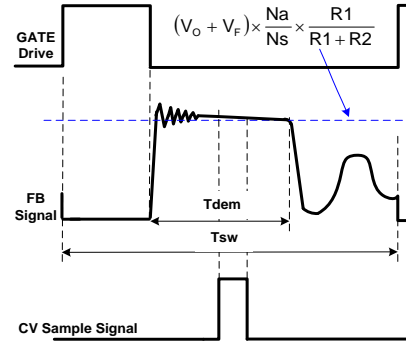

Fig.2
In Primary Side Regulation (PSR) control, the output voltage is sensed on the auxiliary winding when transformer energy is transferred to the secondary side. Fig.2 illustrates the timing waveform of CV sampling signal, demagnetization signal in KP2182X. When the CV sampling process is over, the internal sample/hold (S&H) circuit captures the error signal and amplifies it through the internal Error Amplifier (EA). The output of EA is sent to the PSR CV Modulator (PSR-CVM) for high-precision CV regulation. The internal reference voltage V_{FBREF} is trimmed to be 2V.
Fig.2 also illustrates the equation for “demagnetization plateau”,